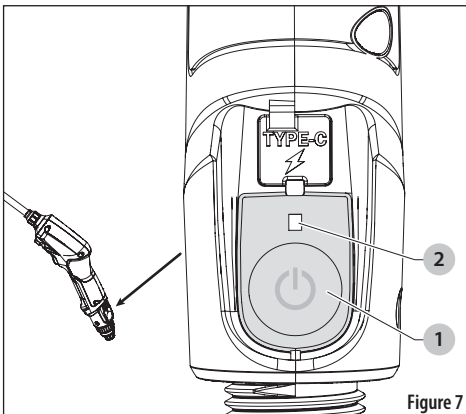

Figure 7
1. Press the power button (1) to turn the sprayer ON. A light (2) above the power button turns on to indicate the battery level. See *Figure 7.*
3. Press the power button to turn the power wand sprayer OFF. See *Figure 7*.